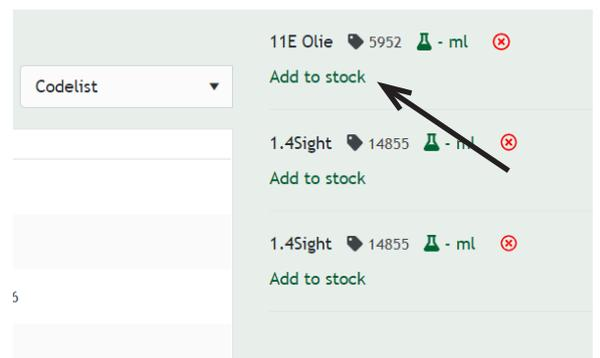

Figure 3
5. Choose the relevant product by searching for a word or code. Click on the double chevron to select a product (see figure 3). You can select more than one product at a time. If you can't see your product on the list, you can request a code via the dashboard.